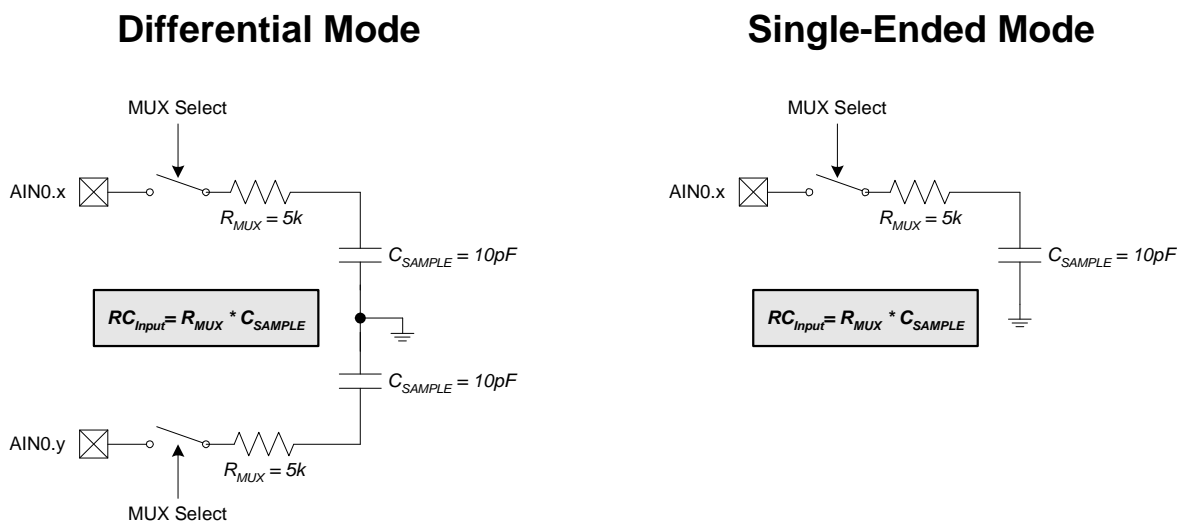

Figure 5.5. ADC0 Equivalent Input Circuits
A minimum tracking time is required before an accurate conversion can be performed. This tracking time is determined by the ADC0 MUX resistance, the ADC0 sampling capacitance, any external source resistance, and the accuracy required for the conversion. Figure 5.5 shows the equivalent ADC0 input circuits for both differential and Single-ended modes. Notice that the equivalent time constant for both input circuits is the same. The required settling time for a given settling accuracy (SA) may be approximated by Equation 5.2. When measuring the Temperature Sensor output, R_{TOTAL} reduces to R_{MUX} . Note that in Low-Power tracking mode, three SAR clocks are used for tracking at the start of every conversion. For most applications, these three SAR clocks will meet the tracking requirements. See Table 5.2 for absolute minimum settling/tracking time requirements.